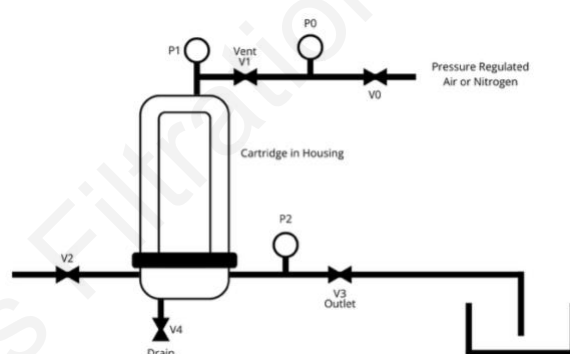

Figure 1a: Cartridge Water Intrusion Test
For performing the Water Intrusion Test manually, refer to Figures 1a and 1b.
4. Typical setups for diffusion testing using a mass flow meter are shown in Figures 1A and 1B (the only difference being where the gas inlet is connected).